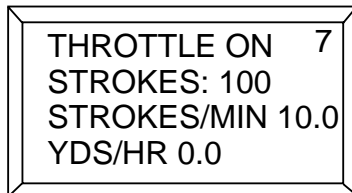

Figure 28. Strokes Per Minute Display
4. Scroll through the **digital readout screen** with the scroll switch to go to screen 7 (Figure 28). This screen will show the volume in strokes per minute. Multiply reading x 2 for actual stroke count.